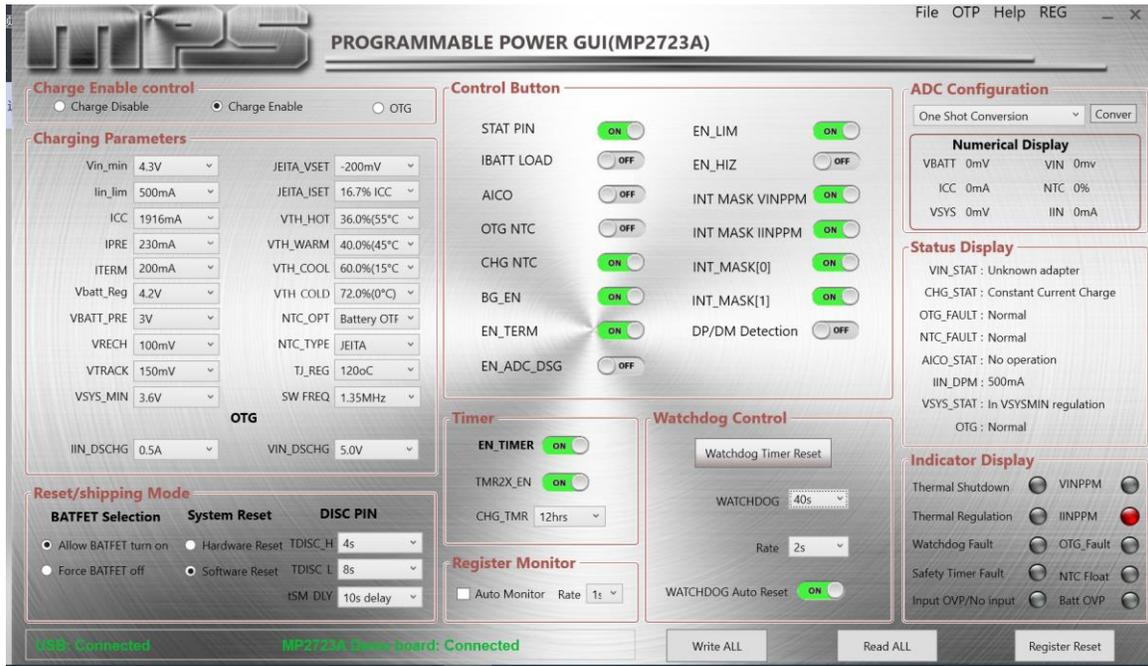

Figure 3: The MP2723A Evaluation Software
1. Turn on the computer, and launch the MP2723A evaluation software. The software’s main window should appear (see Figure 3).
1. Ensure that the all components are connected before running the program, and the status in the lower-left side of the GUI is indicated in green (see Figure 3).